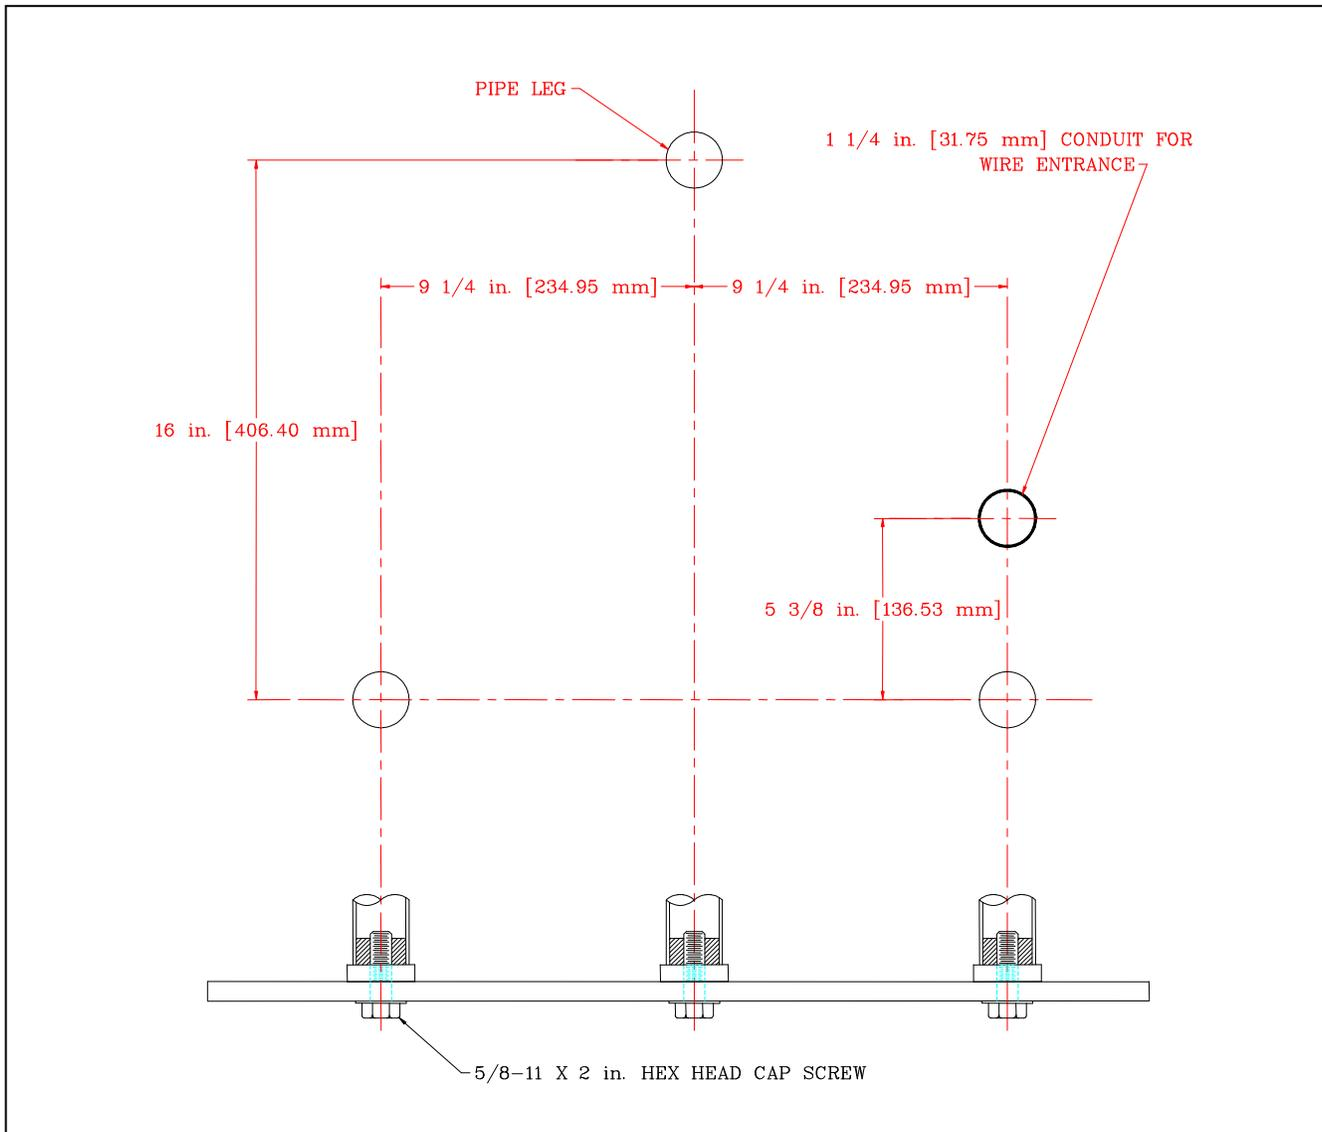

Figure 2. Mounting Dimensions
See Figures 2 and 3. Below is the beacon height and diameter for head rotation.
- See Figure 2. Prior to hoisting, check the triangular bolt hole pattern to make sure the mounting bolts can be threaded into the hub on the bottom of the leg without binding. The bolt hole pattern is 16 x 18.5 inches (426.4 x 469.9 mm) for a three-hole mounting pattern.